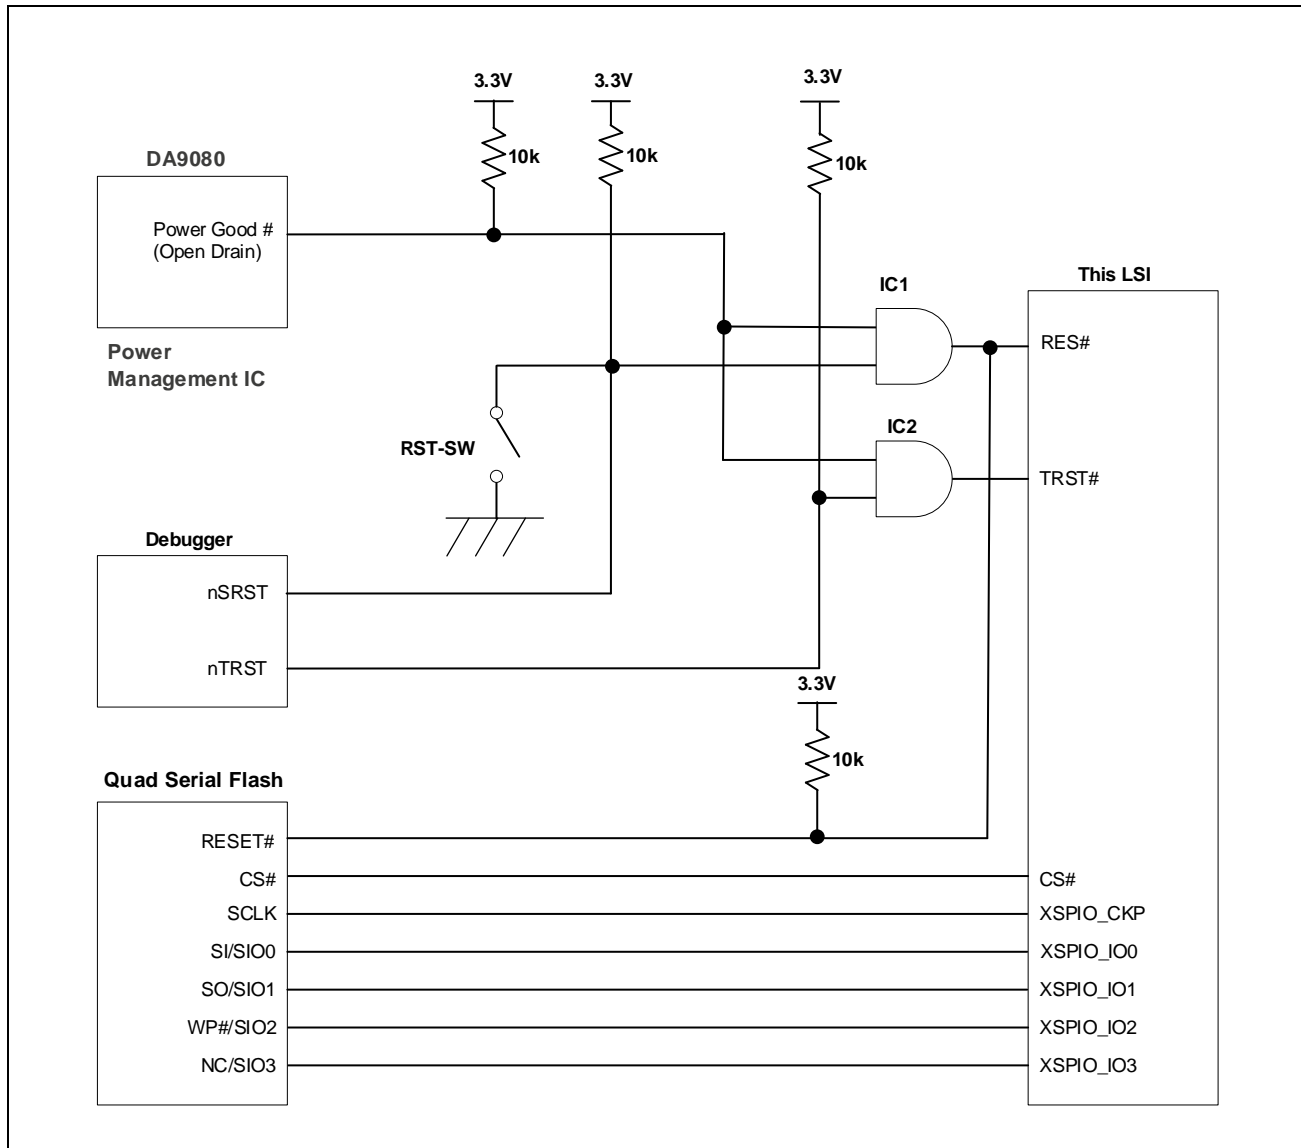

Figure 4.1 Connection example of Quad serial flash with reset pin
- (1) Switch the serial flash protocol mode to 1S-xx-xx (the command is 1S mode) before software reset.
- (2) Apply a hardware reset to the serial flash when the system is reset.
**Figure 4.1** shows a connection example of a Quad serial flash with a reset pin. A hardware reset to the Quad serial flash will also reset the protocol mode setting for the quad serial flash.